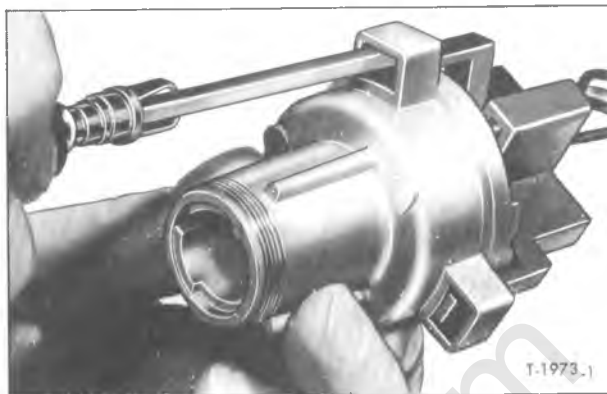

Figure 1—Disengaging Ignition Switch Connector
The ignition or control switch and harness-to-switch connector features a three-tang lock to secure a firm connection (fig. 1). The switch lock cylinder and cylinder housing can be removed as follows:
4. Pull ignition switch out from under dash and separate wiring connectors by inserting thin blade of small screwdriver under each tang of wiring connector as shown in figure 1. Pull connector from switch.